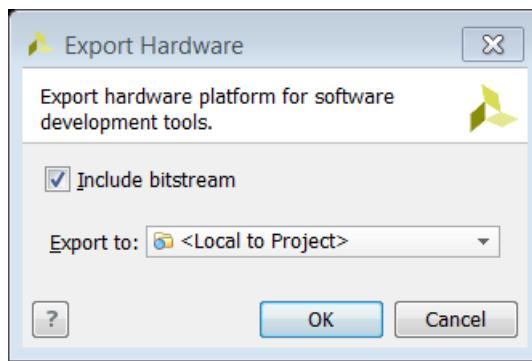

Figure 25: Export Hardware for SDK
- Ensure that the **Include Bitstream** check box is checked and that the **Export to field** is set to the default option of **<Local to Project>** as shown in Figure 25.